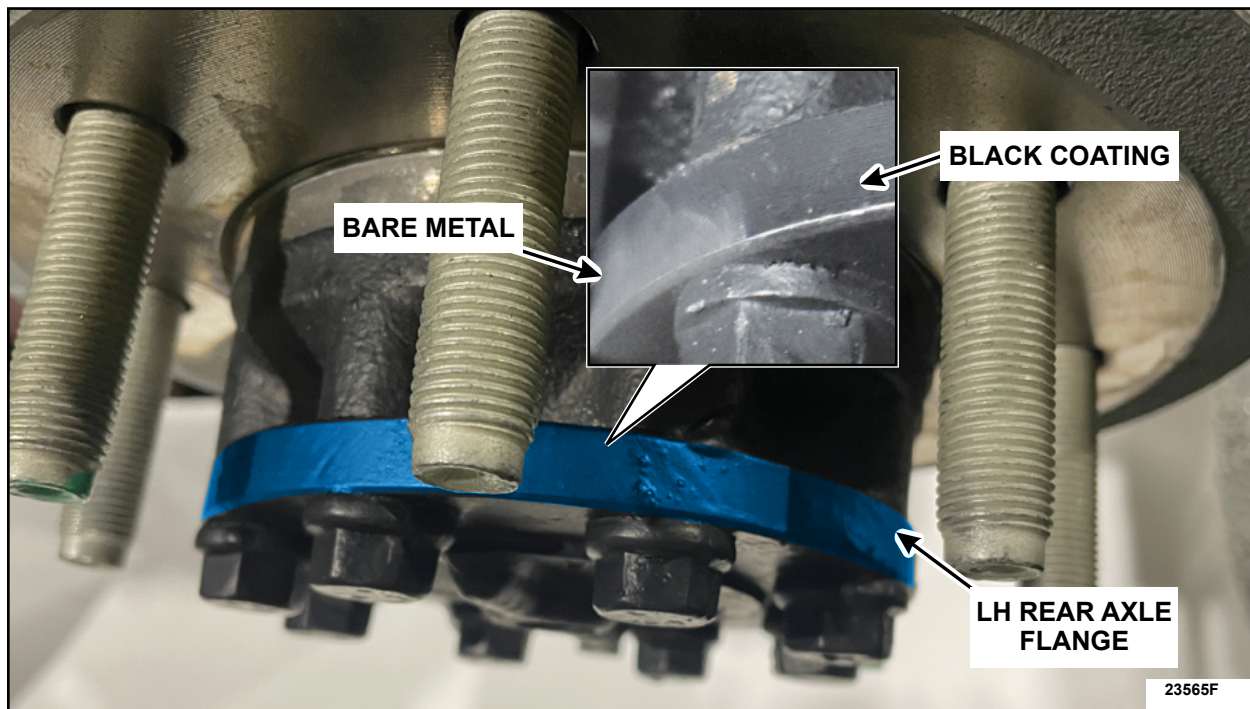

FIGURE 1
2. Using a right angle grinder with a wire wheel, apply light pressure and remove the black coating on the LH rear axle flange to expose the bare metal. See Figure 1.